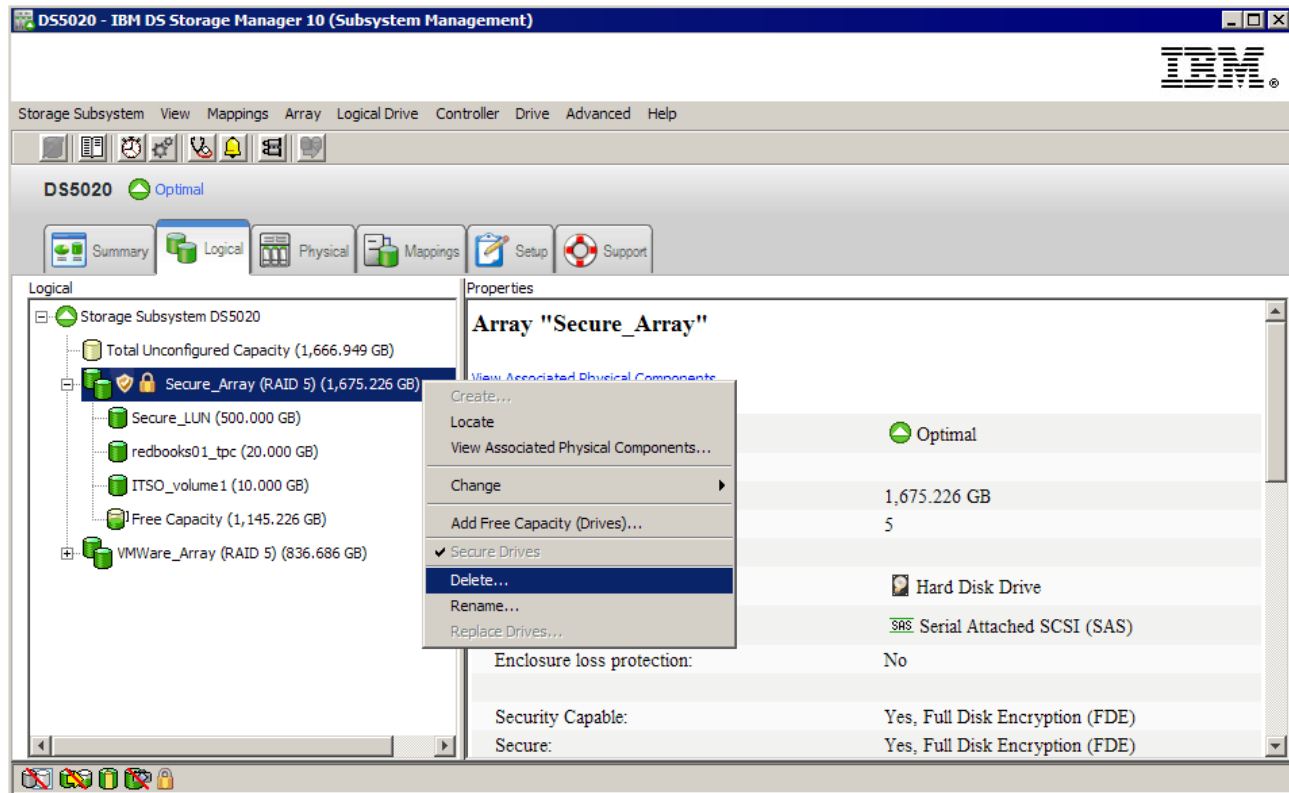

Figure 3-122 Select the array to delete
1. Select the array you want to delete from the configuration and right click and select *Delete* from the dropdown menu as shown in Figure 3-122.